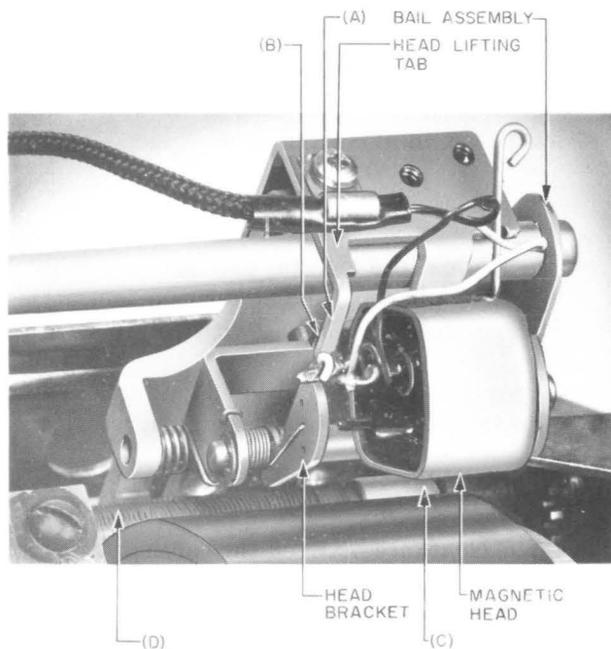

Fig. 4—Magnetic Head Lifting Tab Position (Shown in Unoperated Position)
- (b) **Magnetic Head:** The pole piece of the head (Fig. 4) shall be free of dust, wax, dirt, or any other foreign matter. Lift the head to its highest position, and observe the surface of the pole piece. Gauge by eye.
- (d) **Threads of Feed Screw and Half Nut:** A film of ♦KS-19139 L4 lubricant♦ on the feed screw [Fig. 4, (D)] and half nut
- (a) With the L1 solenoid electrically operated, the clearance between the magnetic head bracket and the head lifting tab [Fig. 4, (A) and 9, (A)] shall be